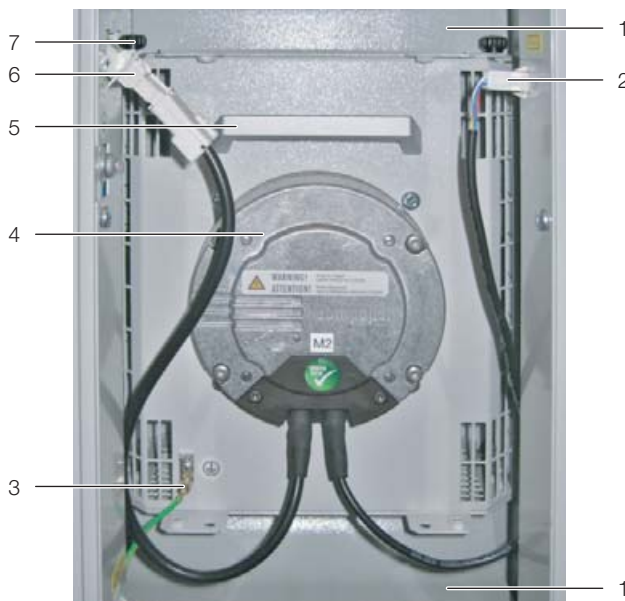

Fig. 19: Fan module in fan tray
- Release the two DC and AC fan connectors on the left and right (fig. 19, items 2 and 6).
- Disconnect the PE conductor connection on the fan (fig. 19, item 3).
- Loosen the two knurled screws, right and left (fig. 19, item 7), at the top and bottom of the fan air baffle plates.